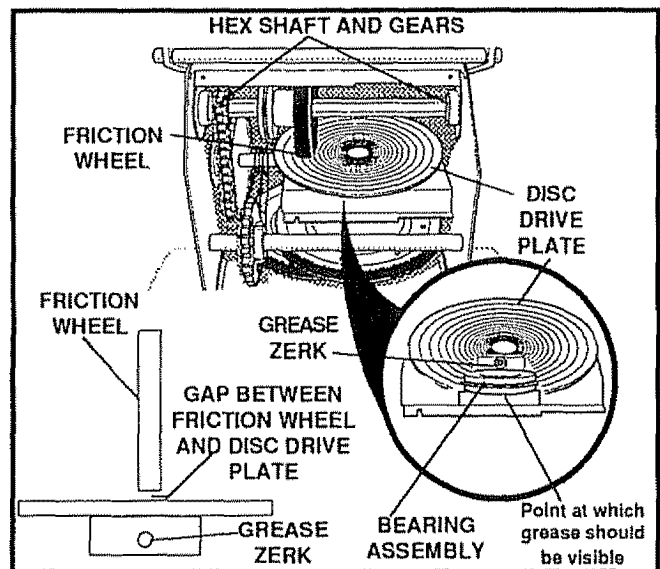

FIG. 18
- Disc Drive Plate - Using a hand grease gun, lubricate with a Hi Temp EP Moly grease, zerk located beneath the disc drive plate (See Fig. 18 inset) every 25 hours and at the end of the season and/or before storage. To grease zerk, turn disc drive plate clockwise by hand until zerk is clearly visible
- Hex Shaft and Gears - Hex shaft and gears require no lubrication. All bearings and bushings are lifetime lubricated and require no maintenance (See Fig 18).
NOTE: For storage, the hex shaft and gears should be wiped with 5W-30 motor oil to prevent rusting (See Fig 18).